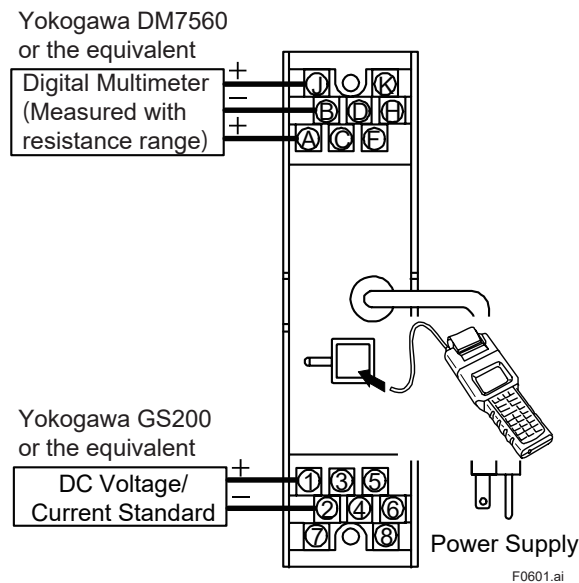
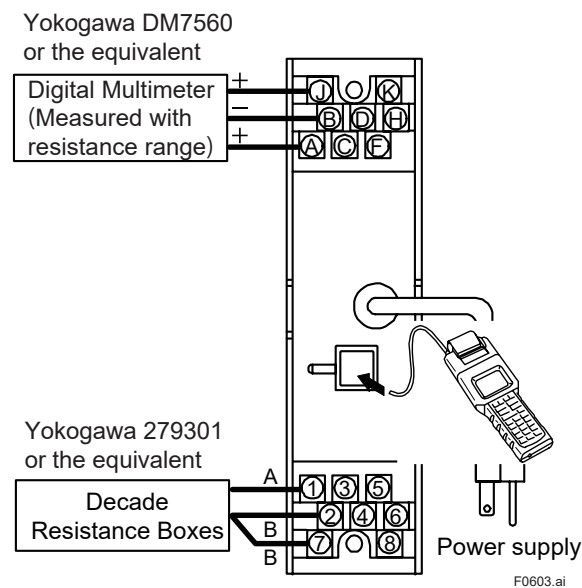

Figure 6-1 Wiring for mV DC Input Adjustment
Figure 6-3 Wiring for RTD Input Adjustment
- Connect the test equipment corresponding to each of input referring to Figure 6-1 through Figure 6-3.